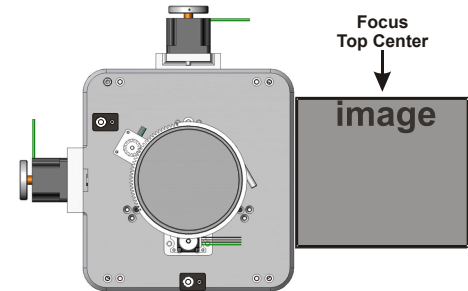

Figure 2-40 Adjust Vertical Boresight
8. Adjust the **Vertical Hold Screw** to lock the lens mount in place. Check boresight again. See **Figure 2-40**.